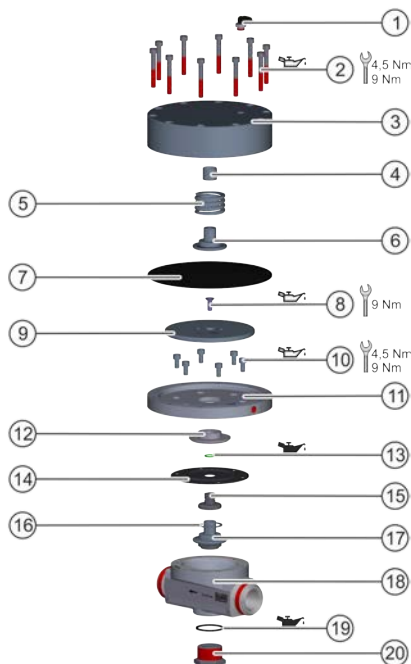

Fig. 4: Exploded view
11. Place pressure disc (12) on the membrane chuck (15).
12. Position the spacer ring (11) over the hole pattern and align it to have the leakage connection point to the desired direction.
13. Insert the greased screws (10). Tighten evenly and cross-wise.
- Respect tightening torque Fig. 4.
14. Insert plate (9) and ensure it is interlocking with the pressure disc.
16. Tighten the plate (9) with greased countersunk-head screw (8).
17. Insert two screws (2) into the bores in the lid (3).
18. Place lid (3) with pressed in plain bearing (4) onto a flat working surface.
19. Insert compression spring (5) into the lid (3).
20. Insert compression spring support (6) into the lid (3).
21. Check outer membrane (7) for damage. Replace if necessary.
22. Position and place outer membrane (7) on the hole pattern. Ensure cleanliness. Tighten with the two screws in the lid (3).
23. Position regulator casing (15) with the assembled components over the hole pattern. Tighten with the two screws in the lid (3).
24. Insert the greased screws (2). Tighten evenly and cross-wise.
25. Screw control air connection (1) into the lid (3).